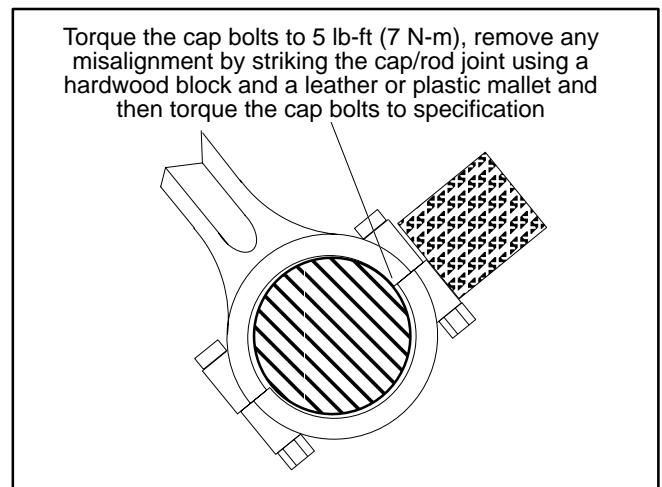

FIGURE 7-22. ALIGNING CONNECTING ROD CAP
- B. Strike the cap/rod joint using a hardwood block and a leather or plastic mallet to remove any misalignment (Figure 7-22).